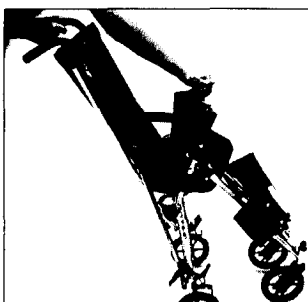

Fig.2
2. Grasp one handle and push down on the opposite seat tube. **Fig.2**